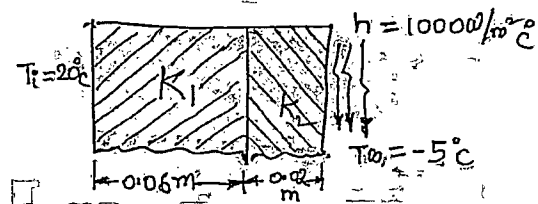

Fig.Q7(b)
b. Determine the temperature distribution through composite wall shown in Fig.Q7(b) when the convective heat loss occurs on the right surface. Take $K_1 = 6 \text{ W/m}^2\text{C}$ and $K_2 = 20 \text{ W/m}^2\text{C}$. (10 Marks)